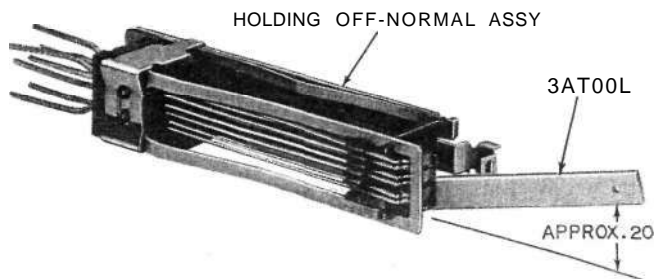

Fig. 33—Method of Blocking Holding Off-Normal Assembly
- (3) The holding off-normal assembly may be blocked in its operated position by inserting the 773A tool between the operate card and mounting bracket with the tool straddling the arm of the card where it passes through the bracket (See Fig. 33).